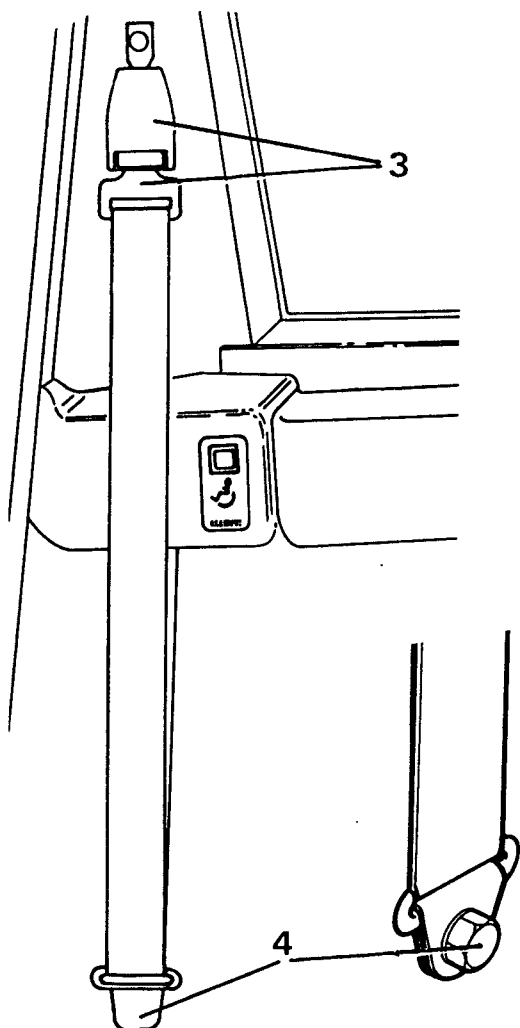

Figure 16
3. Release the buckle from the upper buckle release. See figure 16.